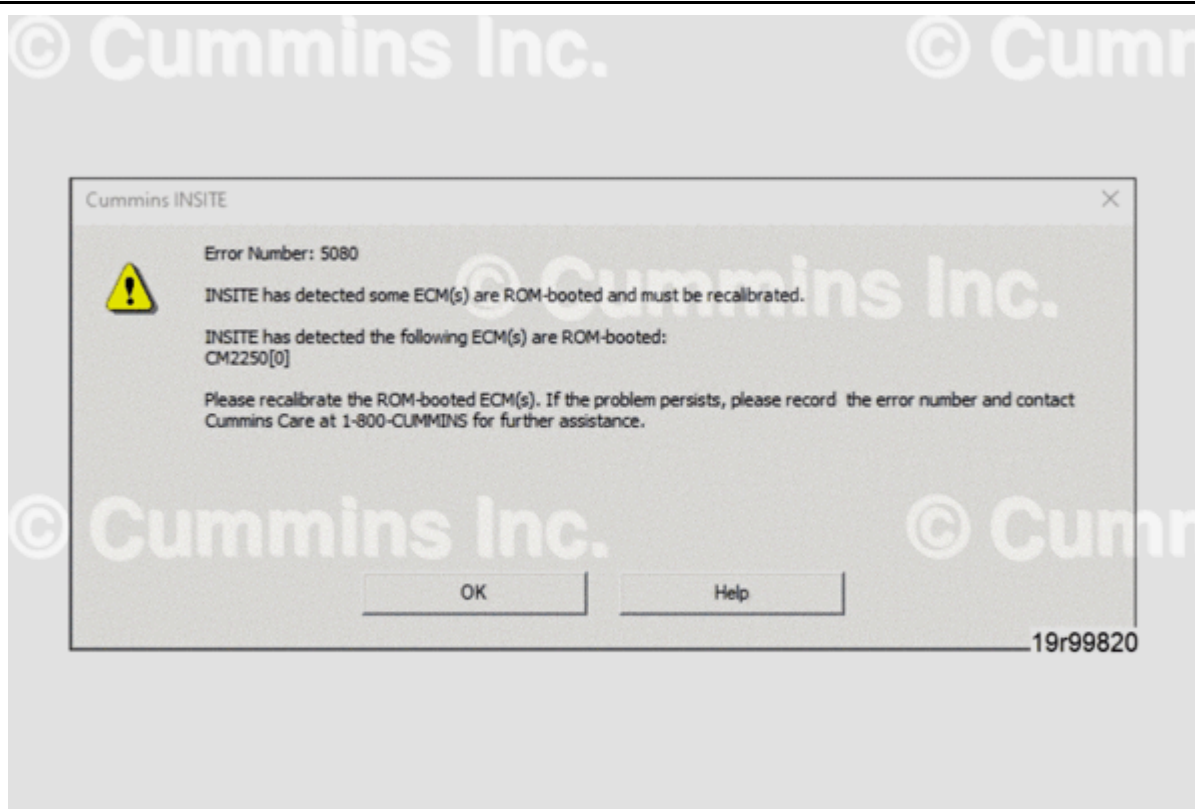

Figure 1, Example of the Error Message From INSITE™ Confirming the ECM Is Rom-Booted and Needs Recalibration.
- Reset the ECM software using the ROM boot procedures listed in Table 1 and verify that INSITE™ shows a similar message as in Figure 1 below.